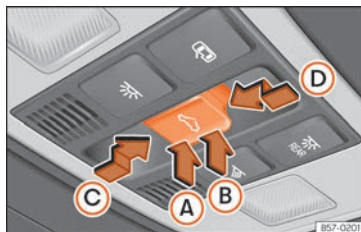

Fig. 86 On the interior roof lining: sunroof button.
The button **Fig. 86** has two levels. The first level switches the sunroof to the tilted position, opening or closing it fully or partially.
the  button » Fig. 86 to the second level in the direction of arrow » Fig. 86 (D) until the sunroof closes completely.